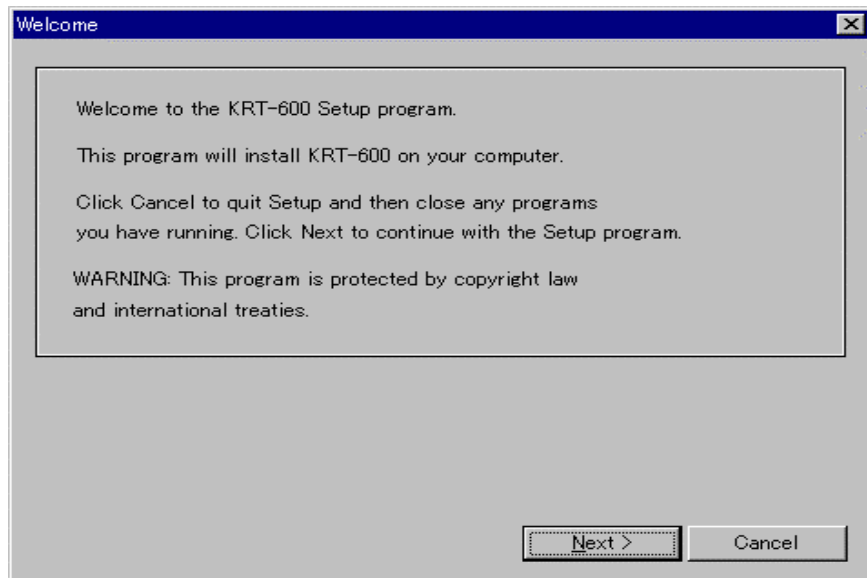

Fig.1 Starting Setup Program
- (1) Execute “Setup.exe” to start the Setup program and the screen shown in Fig. 1.appears.